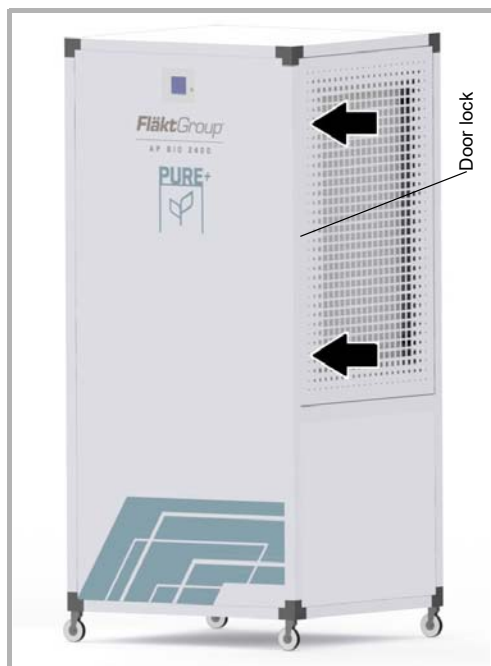

Fig. 9-3 Open the AP BIO 2400
- Open the first door by pressing with both hands on the door at the points shown in Fig. 9-3.